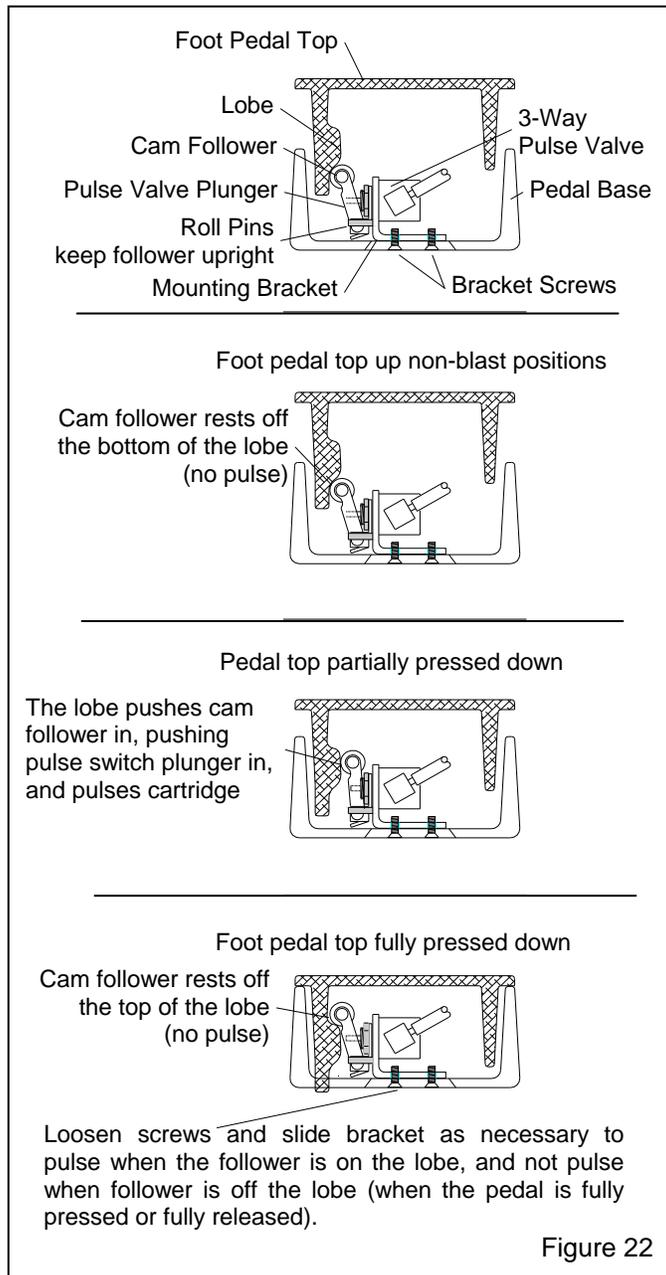

Figure 22
8.15.2 Refer to Figure 22 and make sure the 3-way pulse valve has not come loose from the mounting bracket. Tighten the retaining nut as needed to secure.
8.15.4 Check alignment of pulse-valve cam follower: With the exhauster running and with blast pressure adjusted to 0 psi, hold the foot pedal in hand and fully press the pedal top. The collector should pulse as the cam follower rides over the lobe on the pedal top when the pedal is pressed, and again when the pedal is released, as shown in Figure 22. Note: The pedal should be rapidly pressed and released so the cam follower quickly rides over the lobe; prolonged engagement of the pulse valve will lengthen the pulse, which does not clean the cartridge and wastes compressed air.